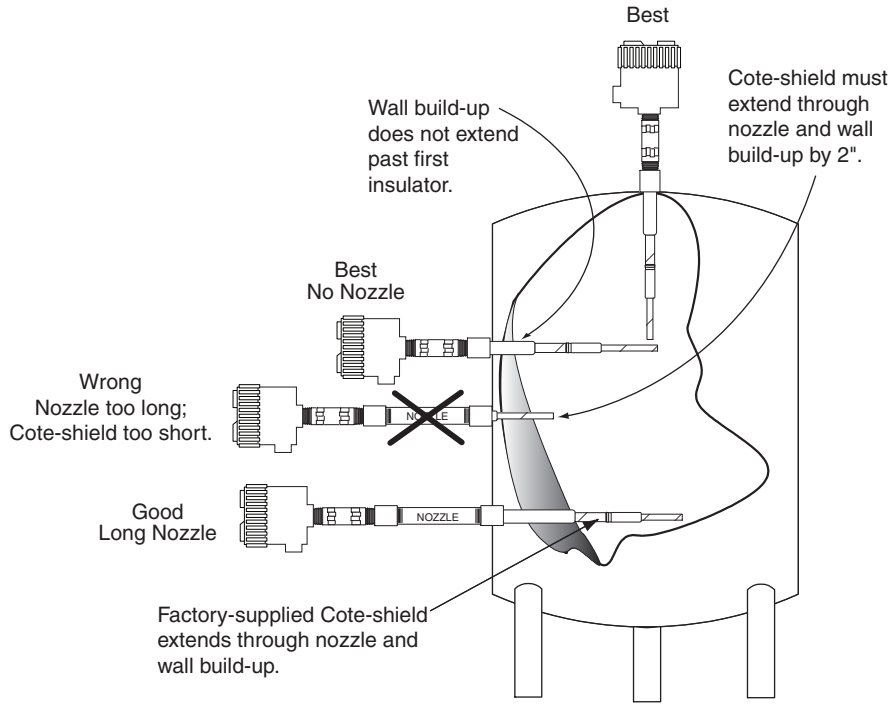

Figure 2-1
- It may be mounted either vertically or horizontally. See Figures 2-1 and 2-2.
- The actual mounting location often depends on the placement of nozzles or openings into the vessel. Do not mount the instrument through a nozzle which exceeds the Cote-Shield element on the sensing element. See Figure 2-1.